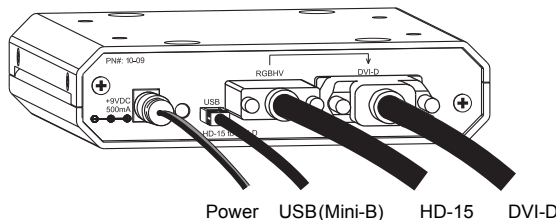

FIG. 3 Attach connectors & power to converter
1. Plug the power cord into the power jack on the converter and into the power source (FIG. 3).
2. Attach one end of the USB (Mini-B) cable to the running Control PC (see the "Equipment & Requirements" section in the next column) and the other end to the converter (FIG. 3). Windows should recognize the new device as an HID device and install default drivers.